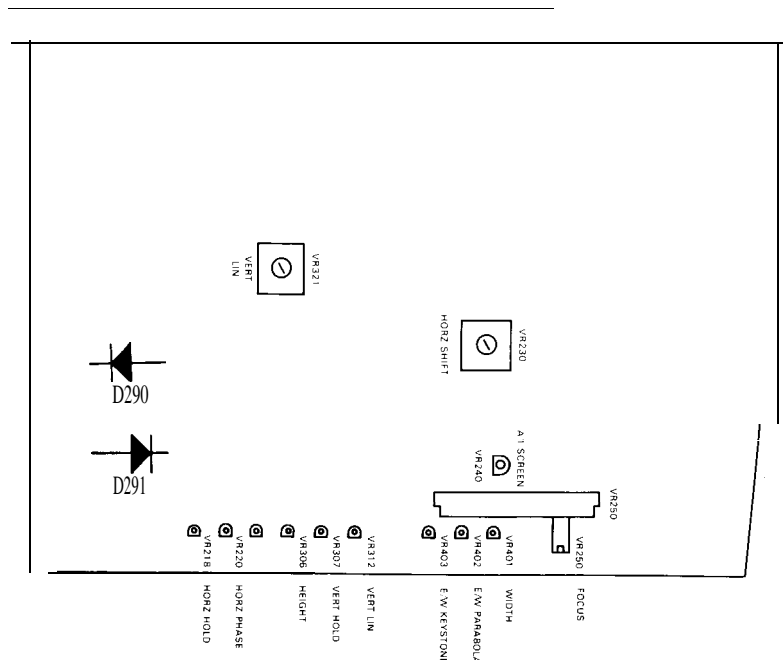

Figure 5-2, Location of Diodes D290 and D291.
2. Connect wire shorting link across diodes D290/291 to ground to temporarily interrupt the mixed sync information to the free-running oscillator. See Figure 5-2 below.